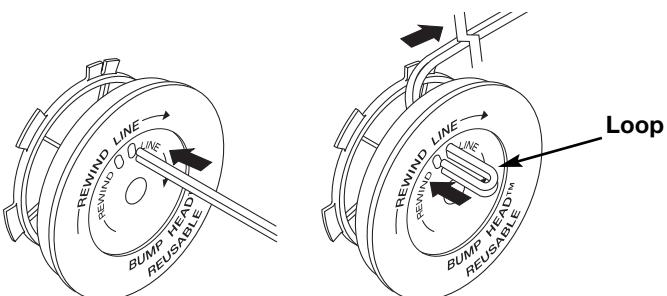

Fig. 22
8. Take approximately 10 feet (3 m) of new trimming line. Insert one end of the line through one of the two holes in the inner reel (Fig. 22). Pull the line through the inner reel until only about 4 inches is left out.
9. Insert the end of the line into the open hole in the inner reel and pull the line tight to make the loop as small as possible (Fig. 22).